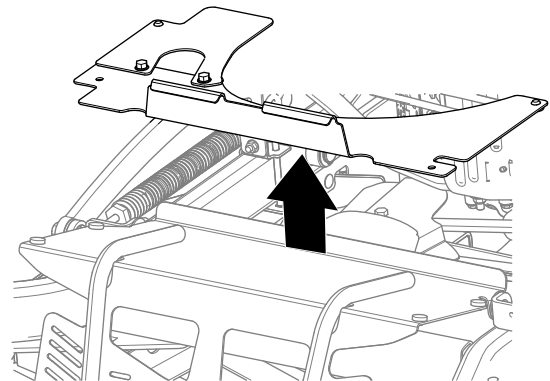

Figure 36
3. Remove the hex nut (5/16 inch) nut (5/16 inch) securing the guard extension to the carriage bolts (Figure 36). Remove the guard extension.